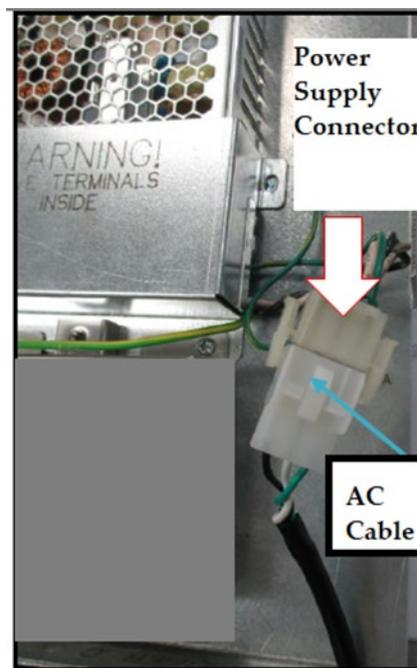

Figure 168
- 8) Disconnect the AC power cable that is attached to the power supply connector without the Invenco Link attached. See Figure 168 below.